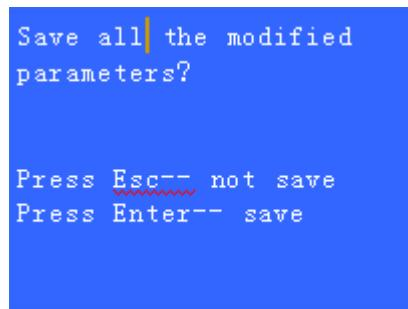

Fig.5.3 Changes Saving Confirmation Page
**Note:** In Main Menu page or any certain submenu page, press HOME button can return to the HOME page directly. But this operation will not store the changed parameters into ROM. If the parameters need to be changed permanently, the operator must press ESC button until the page in Fig.5.3 appears, and press Enter to confirm the changes.